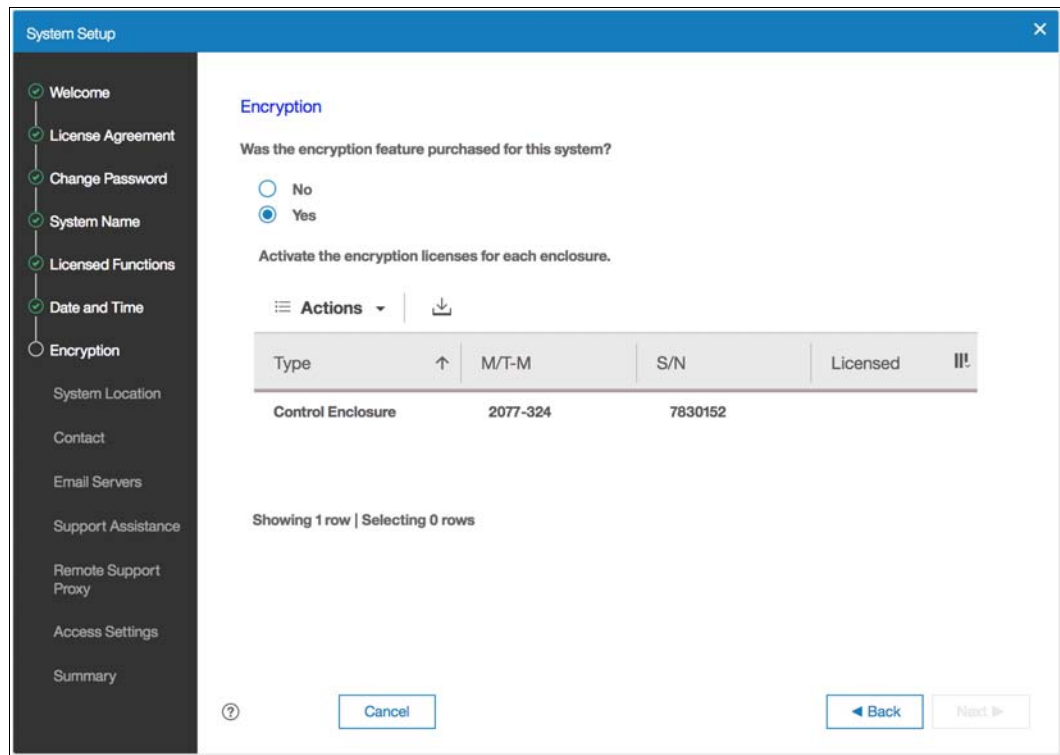

Figure 13-6 Information storage system during initial system setup
2. The Encryption window displays information about your storage system, as shown in Figure 13-6 on page 713.